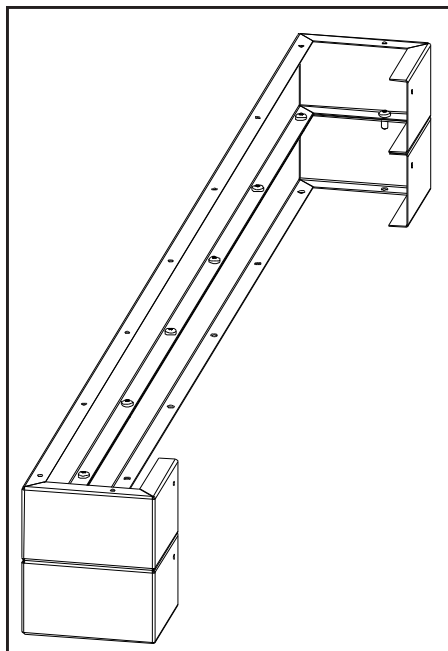

Figure 43: Combining 2 Base Shelf Risers.
2. When using more than one riser each level must be attached using nine (9) #8 T-20 screws provided (see Figure 43).